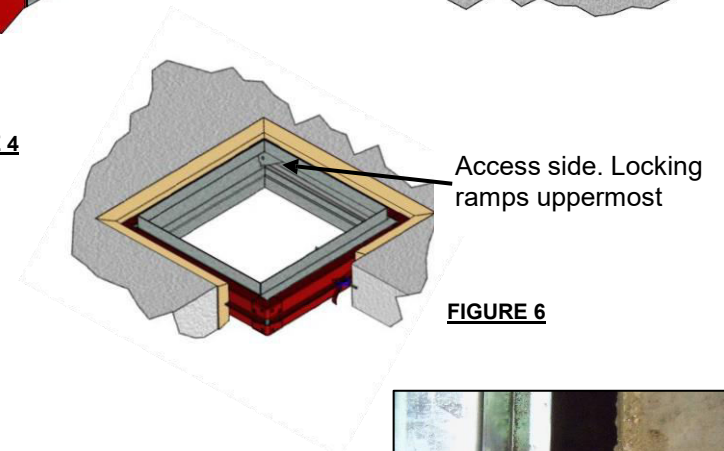

FIGURE 7
- 9.5 Bend the builder's ties out. (See Figs 7 & 8)
- 9.7 While supporting the damper centrally in the cavity, secure the builders ties to the looped wall anchors with 1.5mm galvanized steel wire. (The loops must be tight and a minimum of 3 loops is recommended). (See Fig 7 & 8).